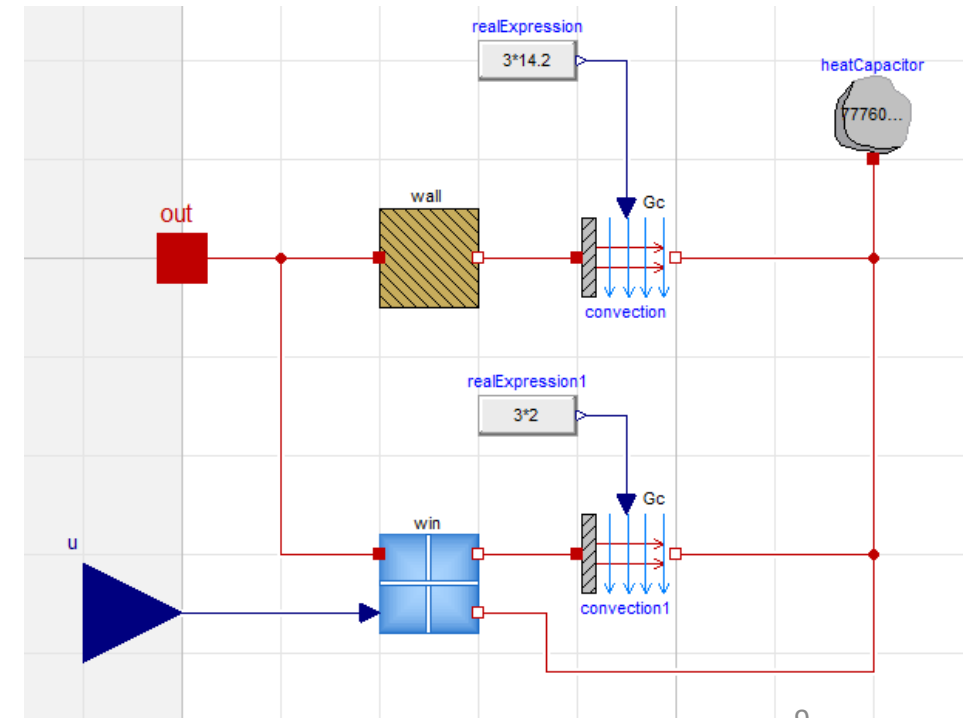

Figure 6.9: Connections in **HouseWallWin**
- SimpleHouse.Components.Window (1)
- Modelica.Thermal.HeatTransfer.Components.Convection (1)
- Modelica.Blocks.Sources.RealExpression (1)
- Modelica.Blocks.Interfaces.RealInput (1)
5. Connect the components according to figure 6.9 and give the value to convection coefficient for window